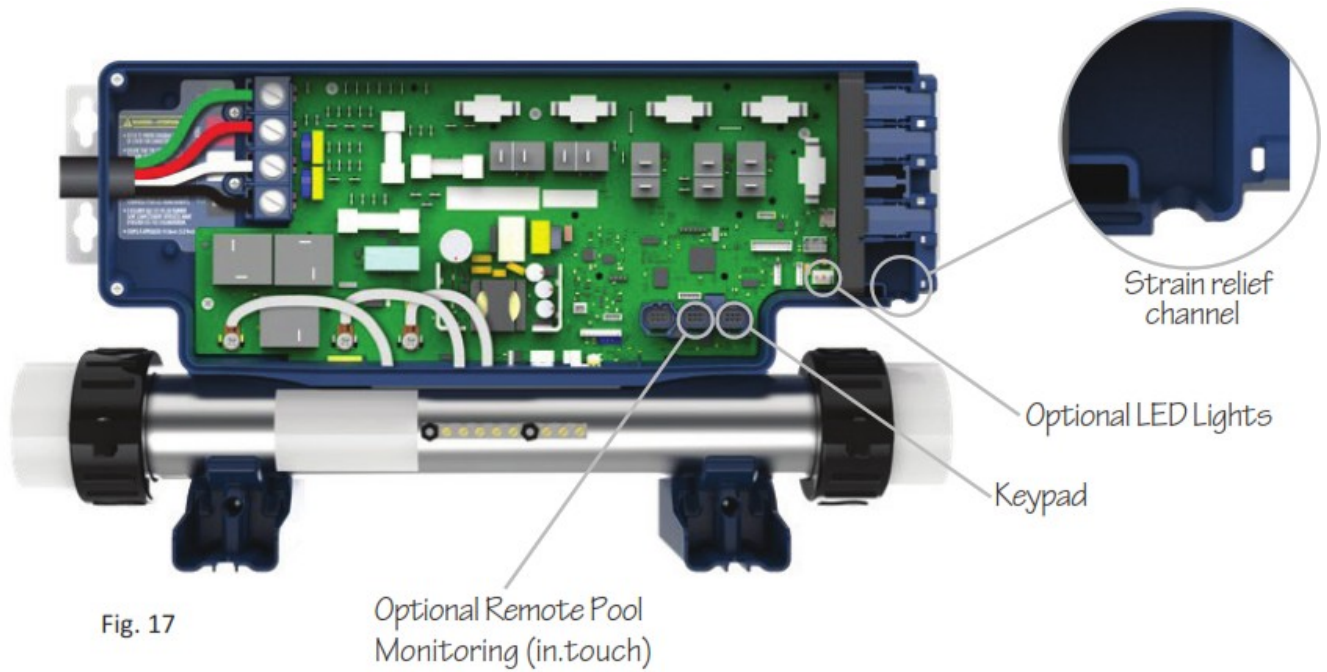

Fig. 17
18. Route the cord for the keypad, optional LED Lights (if present), and optional Remote Pool Monitoring System (if present) through the strain relief on the bottom right hand side of the controller and then plug into corresponding port (Fig. 17).